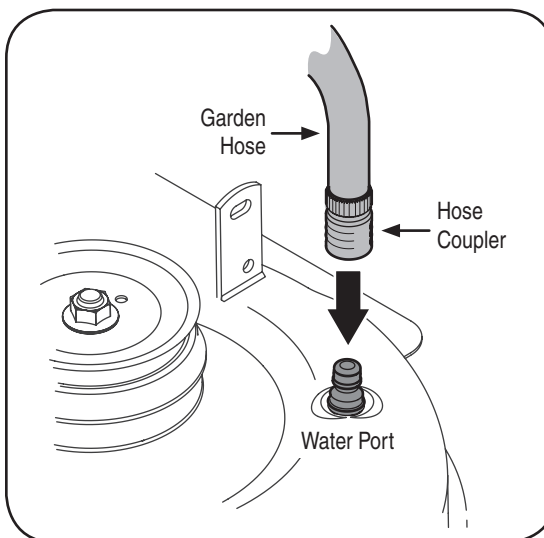

Figure 5-10: Use the Deck Wash System™ to clean the underside of the cutting deck.
1. Thread the hose coupler (packaged in a bag with the Operator's Manual) onto the end of your garden hose, Figure 5-10.
2. Attach the hose and coupler to the water port on the deck surface, Figure 5-10.